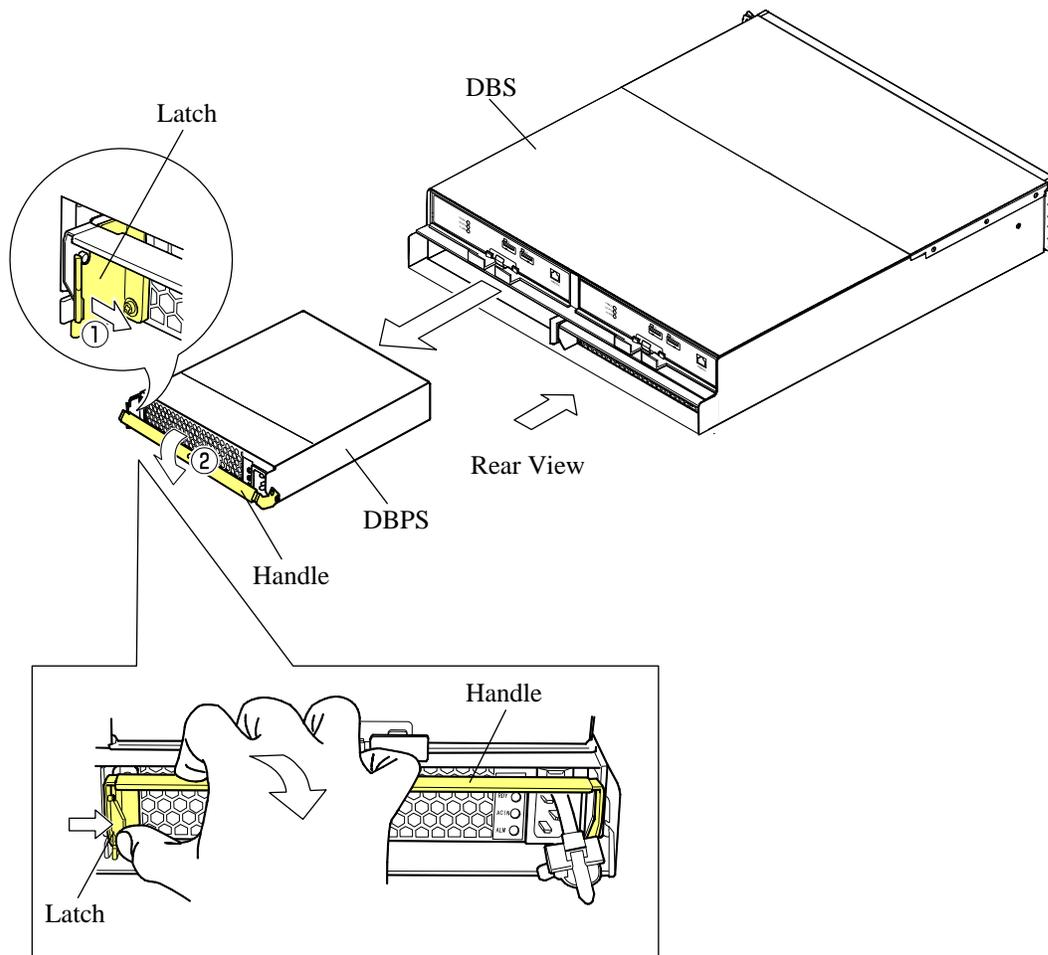

Fig. 3.22.2-4 Replacement of DBPS
- m. Attach the repeat binder to the rail of the rear side of the DBS to fix the power cable. (See Fig. 3.22.2-2.)